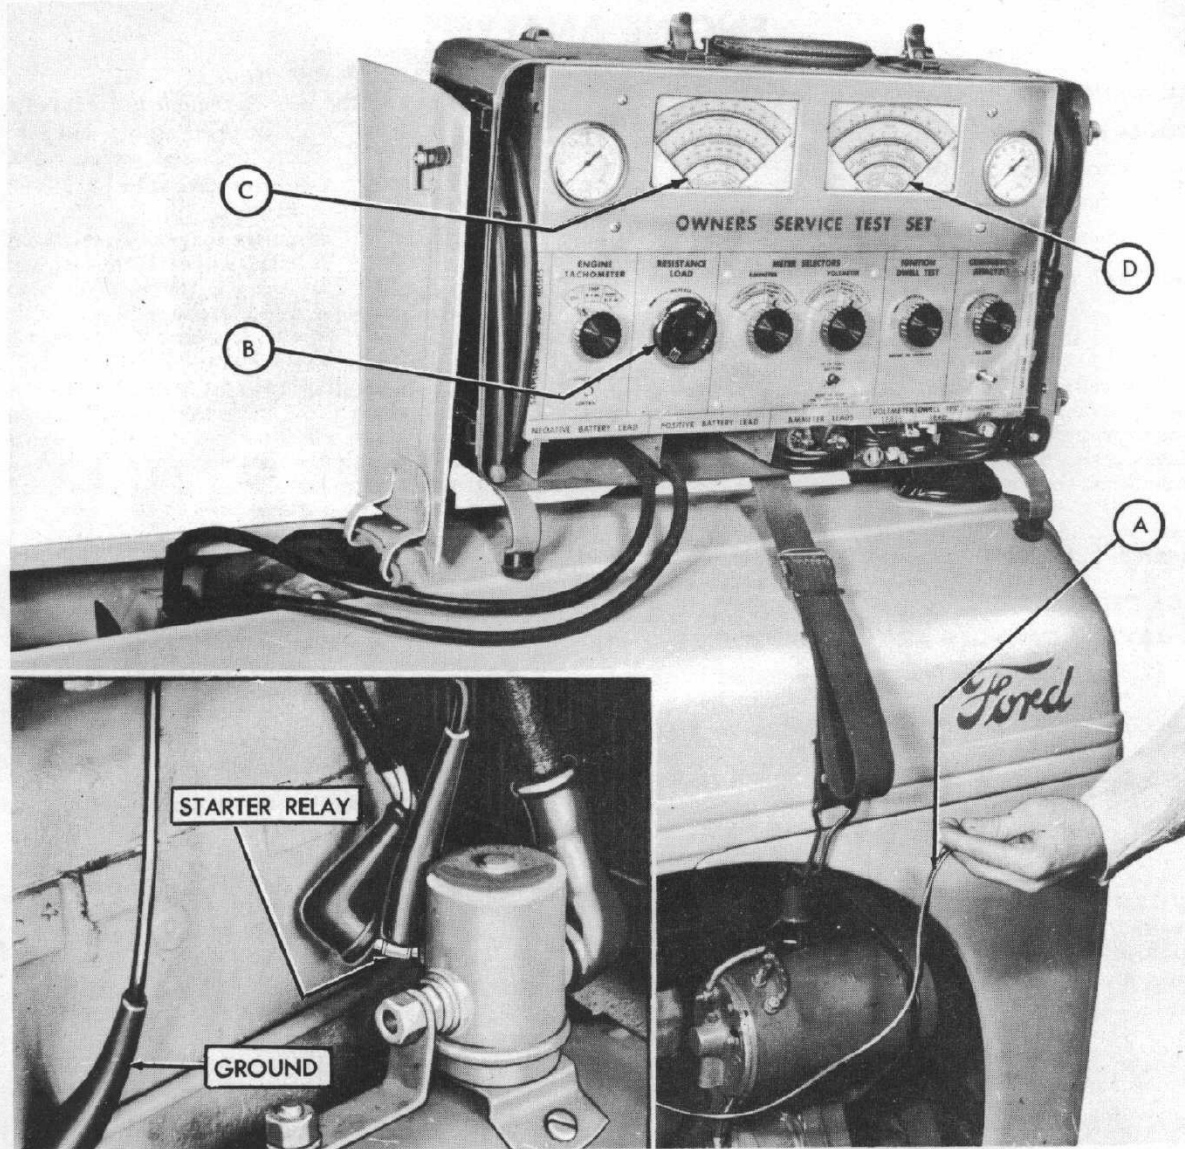

Fig. 2
Step 1—Attach the push button jumper (A-Figure 2) with one lead to the starter relay at the starter button connection, and ground the other as shown in the insert Figure 2.
Step 2—Turn the Resistance Load Knob (B-Figure 2) all the way to the left and check to see that there is no indication on the Starter Amps scale (C-Figure 2).
Step 3—Use the push button control on the jumper lead as shown in Figure 2 and crank the engine over a few seconds (ignition off) and note carefully the exact voltage indicated on the starter volts scale (D-Figure 2). Then stop cranking the engine.